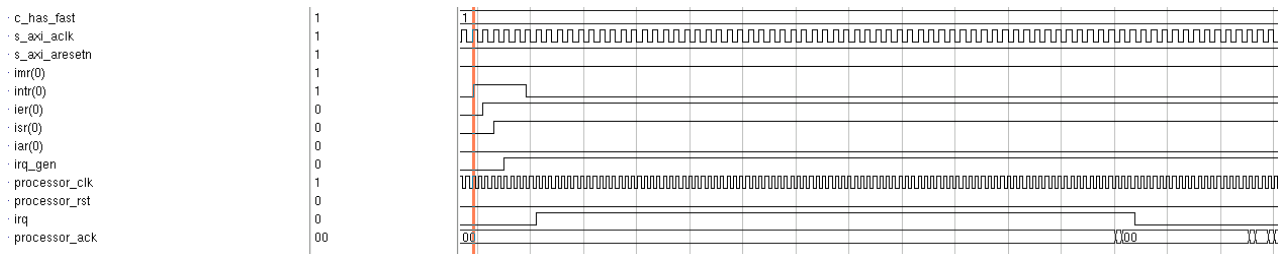

Figure 3-8: Input Intr - Level Sensitive (active High), C_HAS_FAST = 1 and IMR(i) = '1
- Configured Input Interrupt (Intr) for Level sensitive (active-High), include fast Logic to High (C_HAS_FAST = 1) and mode set to fast interrupt mode (IMR(i) = 1). Timing diagram is shown in Figure 3-8.